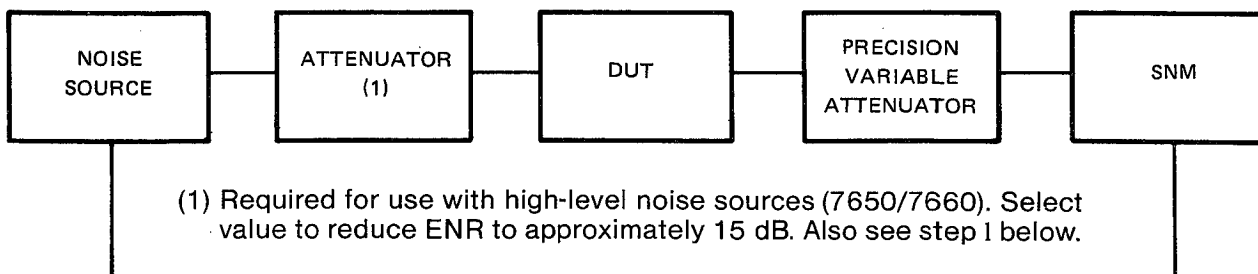

Figure 5-1. Set-up for Checking SNM Accuracy
- a. Set up the equipment as shown in Figure 5-1. See paragraph 5-9 for UUT requirements.